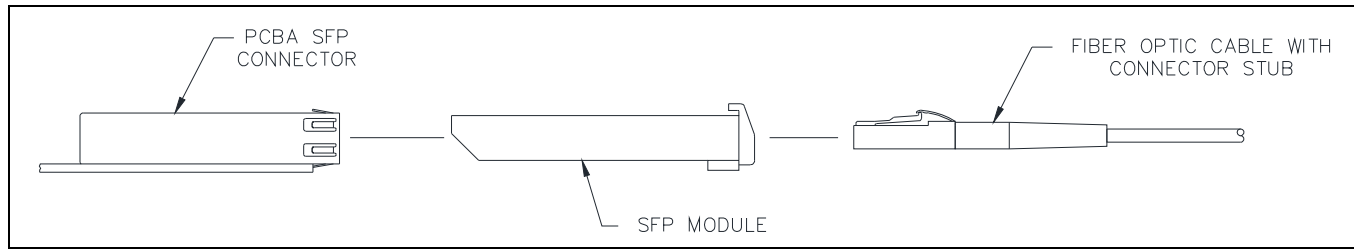

Figure 4. SP2 Fiber Optic Ethernet Connection
8. Insert the SFP transceiver into the SFP receptacle (see Figure 4).
11. Plug the fiber connector into the SFP transceiver (see Figure 4).